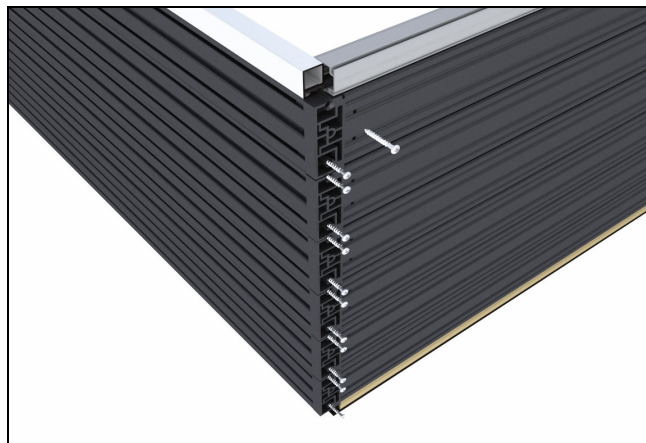

Figure 86
4. Align side jamb to sill by sliding corner keys into sill. Fasten side jamb and sill through corner keys using two #8 x 1 3/4" pan head screws per key. See figure 86.